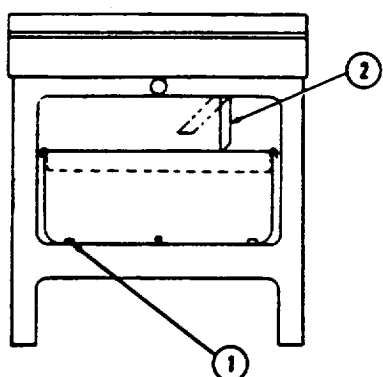

FIGURE 1
- b. Remove Reservoir Retainers (1, Figure 1) and discard cardboard packing.